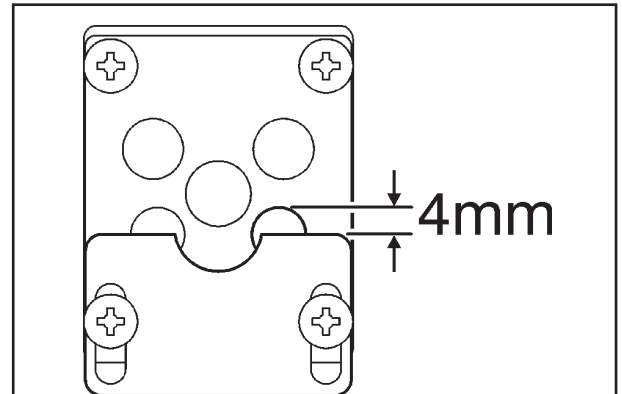

Figure 29. Aeration shutter setting
1. The aeration shutter is factory set and should not require adjustment. If the shutter is not as shown in figure 29 and requires adjustment, loosen the two aeration shutter screws, slide the aeration shutter to the position shown in figure 29 and tighten the fixing screws.